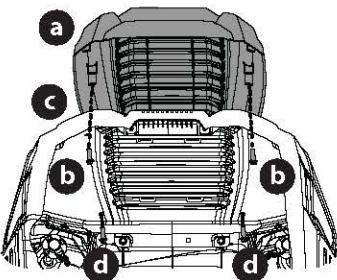

Figure 9
1. Set the hood topper up against the top of the hood with the hood open, and align the holes on the hood topper (a) with the holes in the hood (b) on the rear half of the hood and then snug them (Figure 9).
2. With the rear screws in place, align the holes in the hood topper (a) with the holes in the hood (c) and secure in place with remaining two screws (d) (Figure 9).